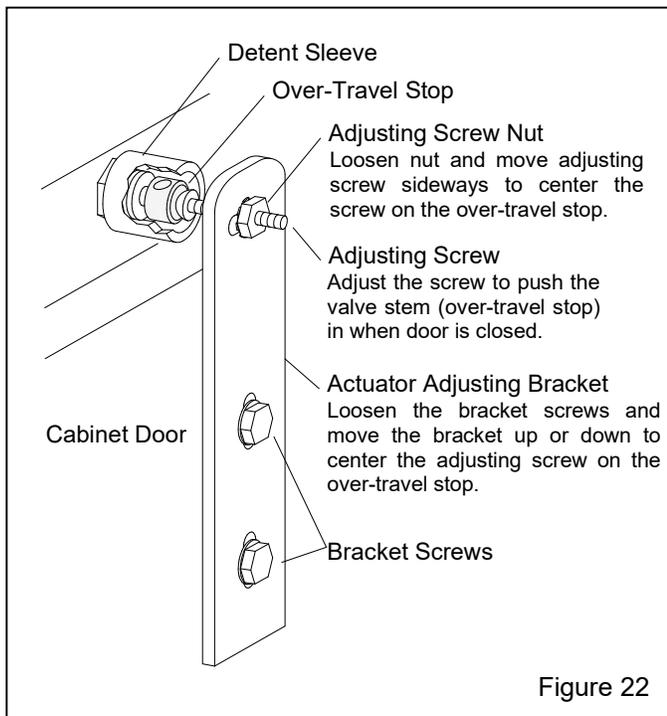

Figure 22
5.7 Door Interlocks – Figure 22